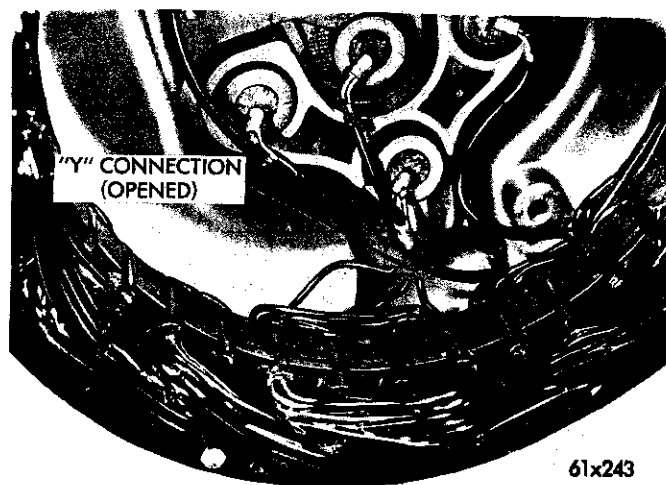

Fig. 22—Separating the Three Stator Leads (Typical)
(a) Separate the three (3) stator leads at the "Y" connection (Fig. 22).